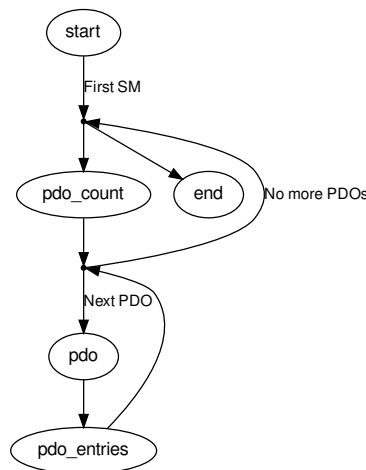
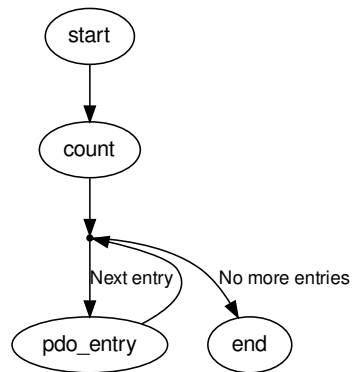

Figure 5.7: Transition Diagram of the PDO Reading State Machine
Figure 5.8: Transition Diagram of the PDO Entry Reading State Machine
**PDO Reading FSM** This state machine (Figure 5.7) has the purpose to read the complete PDO configuration of a slave. It reads the PDO assignment for each Sync Manager and uses the PDO Entry Reading FSM (Figure 5.8) to read the mapping for each assigned PDO.
**PDO Entry Reading FSM** This state machine (Figure 5.8) reads the PDO mapping (the PDO entries) of a PDO. It reads the respective mapping SDO (0x1600 – 0x17ff, or 0x1a00 – 0x1bff) for the given PDO by reading first the subindex zero (number of elements) to determine the number of mapped PDO entries. After that, each subindex is read to get the mapped PDO entry index, subindex and bit size.